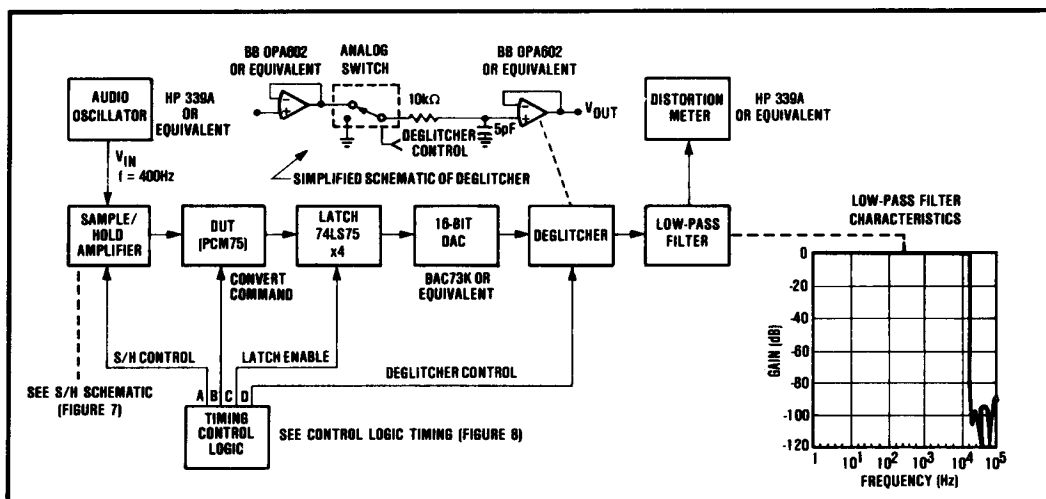

FIGURE 6. Block Diagram of Distortion Test Circuit.
NOTES: (1) The measurement of Total Harmonic Distortion + Noise (THD+N) and Dynamic Range is highly dependent on the characteristics of the sample/hold amplifier, the digital-to-analog converter, the deglitcher, and the low-pass filter. To accurately measure THD+N and Dynamic Range, the accuracy of each device should be better than 16-bit accuracy. A block diagram showing the measurement technique Burr-Brown uses is shown in Figure 6. (2) DTL/TTL compatible, i.e., Logic "0" = 0.8V max. Logic "1" = 2.0V min for inputs. For digital outputs Logic "0" = +0.4V max. Logic "1" = 2.4V min. (3) Adjustable to zero. (see "Optional External Gain and Offset Adjustment.") (4) FSR means Full Scale Range. For example, unit connected for  $\pm 10V$  range has 20V FSR. (5) Conversion time may be shortened with "Short Cycle" set for lower resolution and with use of Clock Rate Control. See "Additional Optional Connections" section. The Clock Rate Control (pin 23) should be connected to Digital Common for specified max conversion time. Short Cycle (pin 32) should be left open for 16-bit resolution or connected to the n + 1 digital output for n-bit resolution. For example, connect Short Cycle to bit 15 (pin 15) for 14-bit resolution. (6) See Table I. CSB—Complementary Straight Binary, COB—Complementary Offset Binary, CTC—Complementary Two's Complement. (7) CTC coding obtained by inverting MSB (pin 1). (8) Adjustable with Clock Rate Control from approximately 933kHz to 1.4MHz. See Figures 14 and 15 and Table III.
The Total Harmonic Distortion (THD) is defined as the ratio of the square root of the sum of the squares of the value of the rms harmonics to the value of the rms fundamental and is expressed in percent or dB. A block diagram of the test circuit used to measure the THD of the PCM75 is shown in Figure 6 along with a timing diagram for the control logic. If we assume that the error due to the test circuit is negligible, then the rms value of the PCM75 error referred to the input can be shown to be